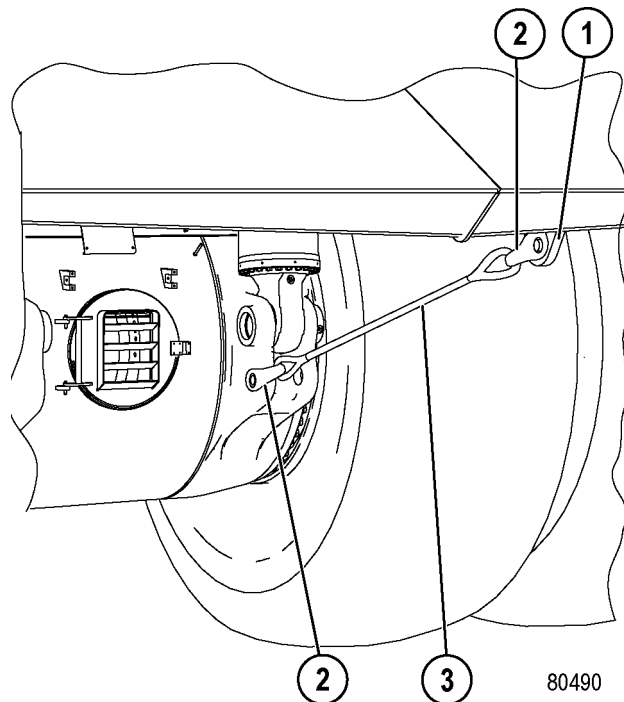

FIGURE 3-1. BODY RETENTION SLING
2. Install two shackles (2, Figure 3-1) and body retention sling (3) between rear body ear (1) and the axle housing.